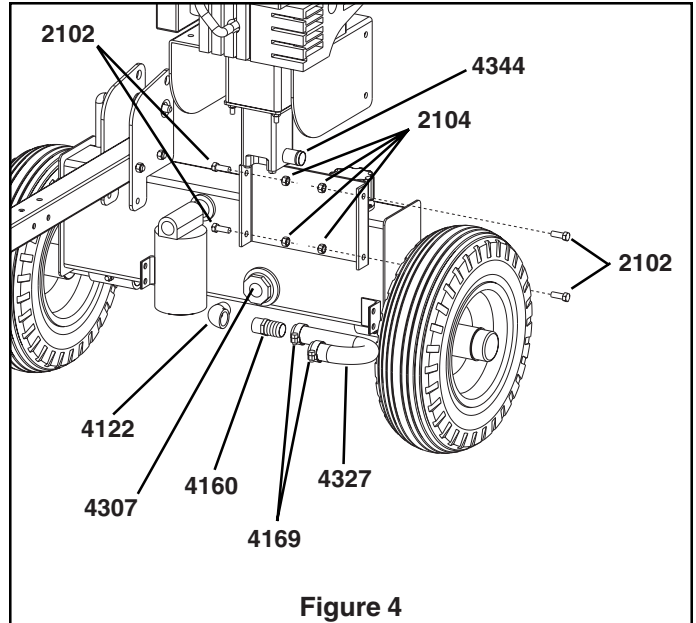

Figure 4
8. Remove the 90 degree street elbow (4122) and the 1" barbed coupler (4160) and insert the street elbow first into the suction screen (4307) that has already been assembled into the reservoir. Tighten the elbow until it faces to the right or engine side of the log splitter when looking at the log splitter from the front. Then insert the 1" barbed coupler into the street elbow and tighten. **See Figure 4.**
9. Assemble the pre-assembled engine assembly onto the reservoir as shown using four 3/8-16 x 1" bolts (2102) and four 3/8-16 bi-way locknuts (2104). Attach the suction hose (4327) between the 1" barbed coupler and the hydraulic pump (4344) using two hose clamps (4169). **See Figure 4.** Go to Step 12.